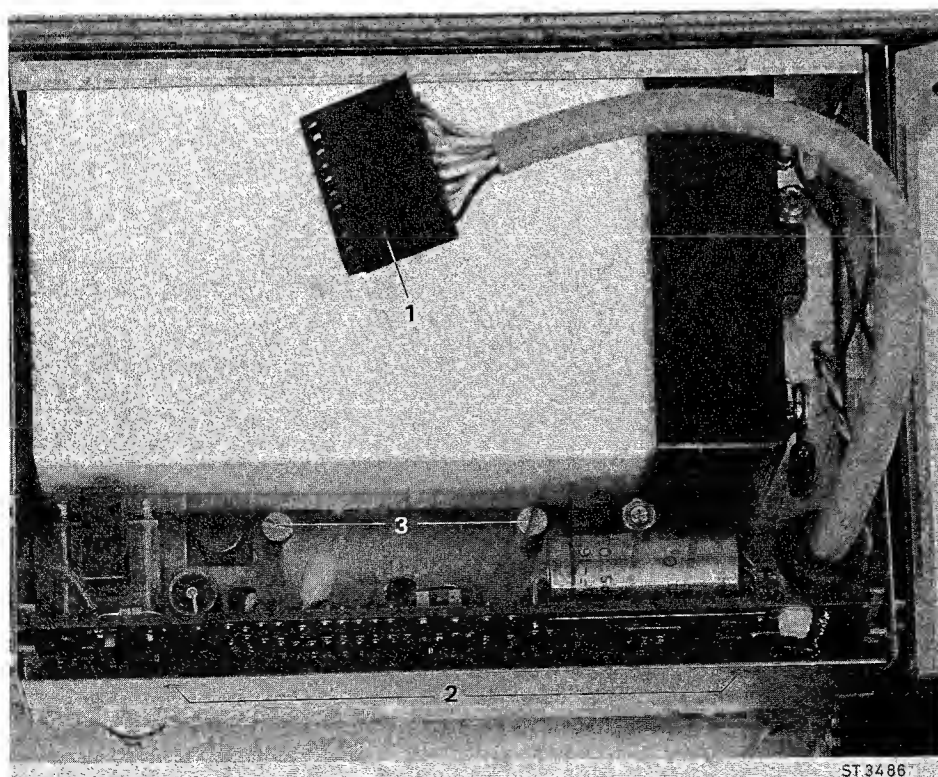

Fig. 2. Dismantling the battery power supply
- Disconnect the connector X101. (Fig. 2, item 1.).
- Remove the two screws from the battery power supply cover. (Fig. 2, item 2.).
- Remove the two screws. (Fig. 2, item 3.).